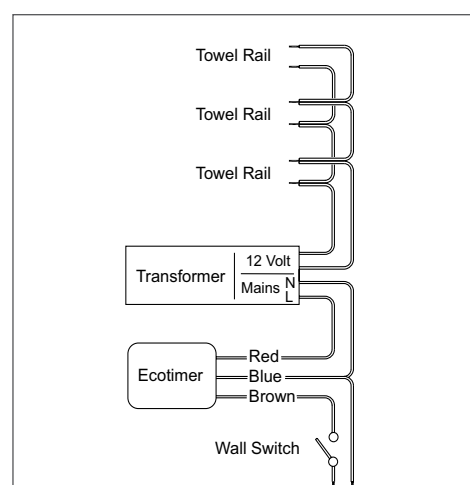

Fig 6.0
- The supplied 'ECOTIMER' is a 230 - 240V device that should be installed behind the switchplate between the switch and the transformer. See fig 6.0